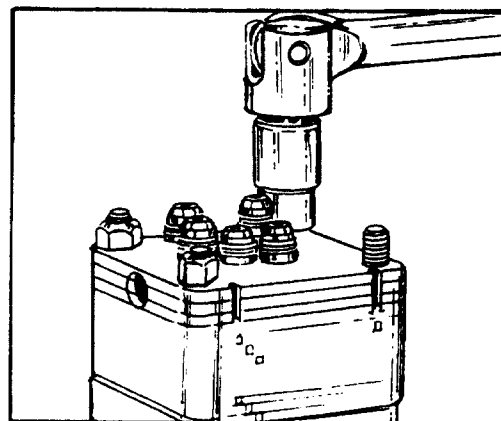

FIGURE 5.
3. Remove the four retaining nuts (1) from the port cover (2) assembly. Be careful not to damage the protruding ports. See figure 5. Replace any nut that has damaged threads or hex.